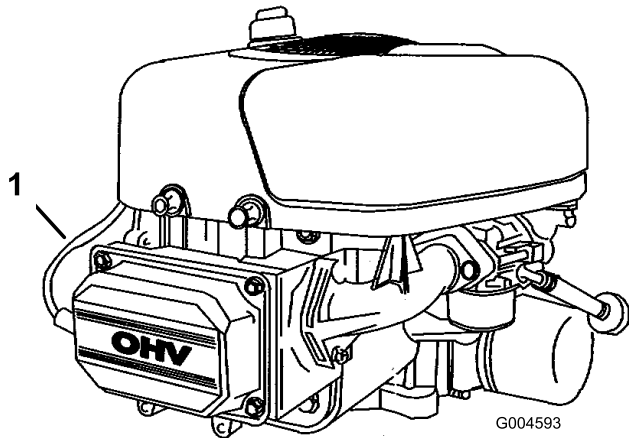

Figure 25
7. Disconnect the wire from the spark plug (Figure 25).
3. Connect the wire to the spark plug (Figure 25).